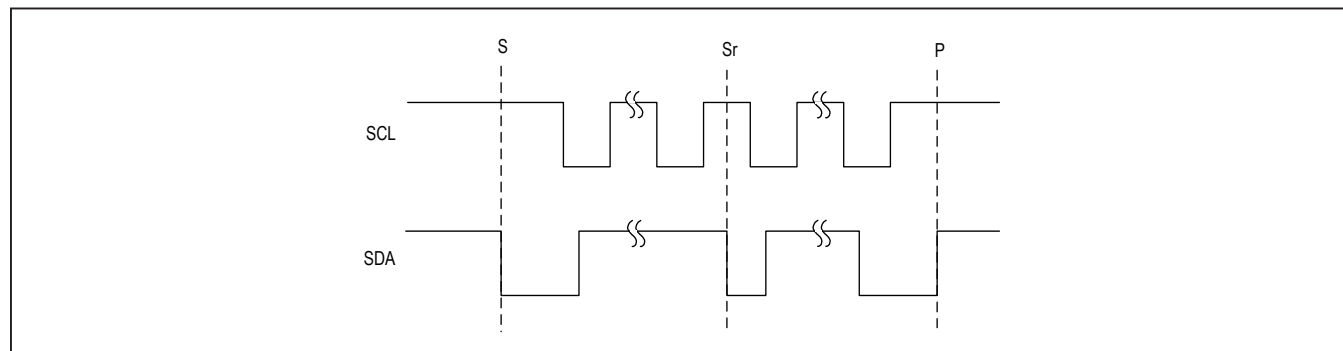

Figure 8. I²C START, STOP and REPEATED START Conditions
When writing to the MAX20303 using I²C, the master sends a START condition (S) followed by the MAX20303 I²C address. After the address, the master sends the register address of the register that is to be programmed. The master then ends communication by issuing a STOP condition (P) to relinquish control of the bus, or a REPEATED START condition (Sr) to communicate to another I²C slave. See Figure 8.